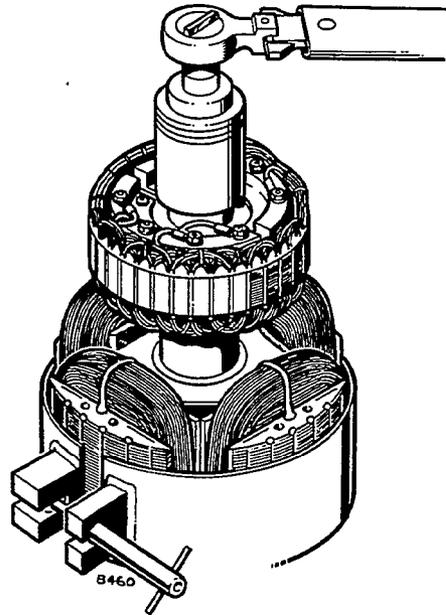

FIGURE 66. EXCITER ROTOR LOCKING NUT REMOVAL .
13. Clamp alternator rotor in a fixed vertical or horizontal position to remove or install the rotor lock nut, Figure 66. Lock nut is torqued to 130-150 ft. lb. (176-203 N•m).